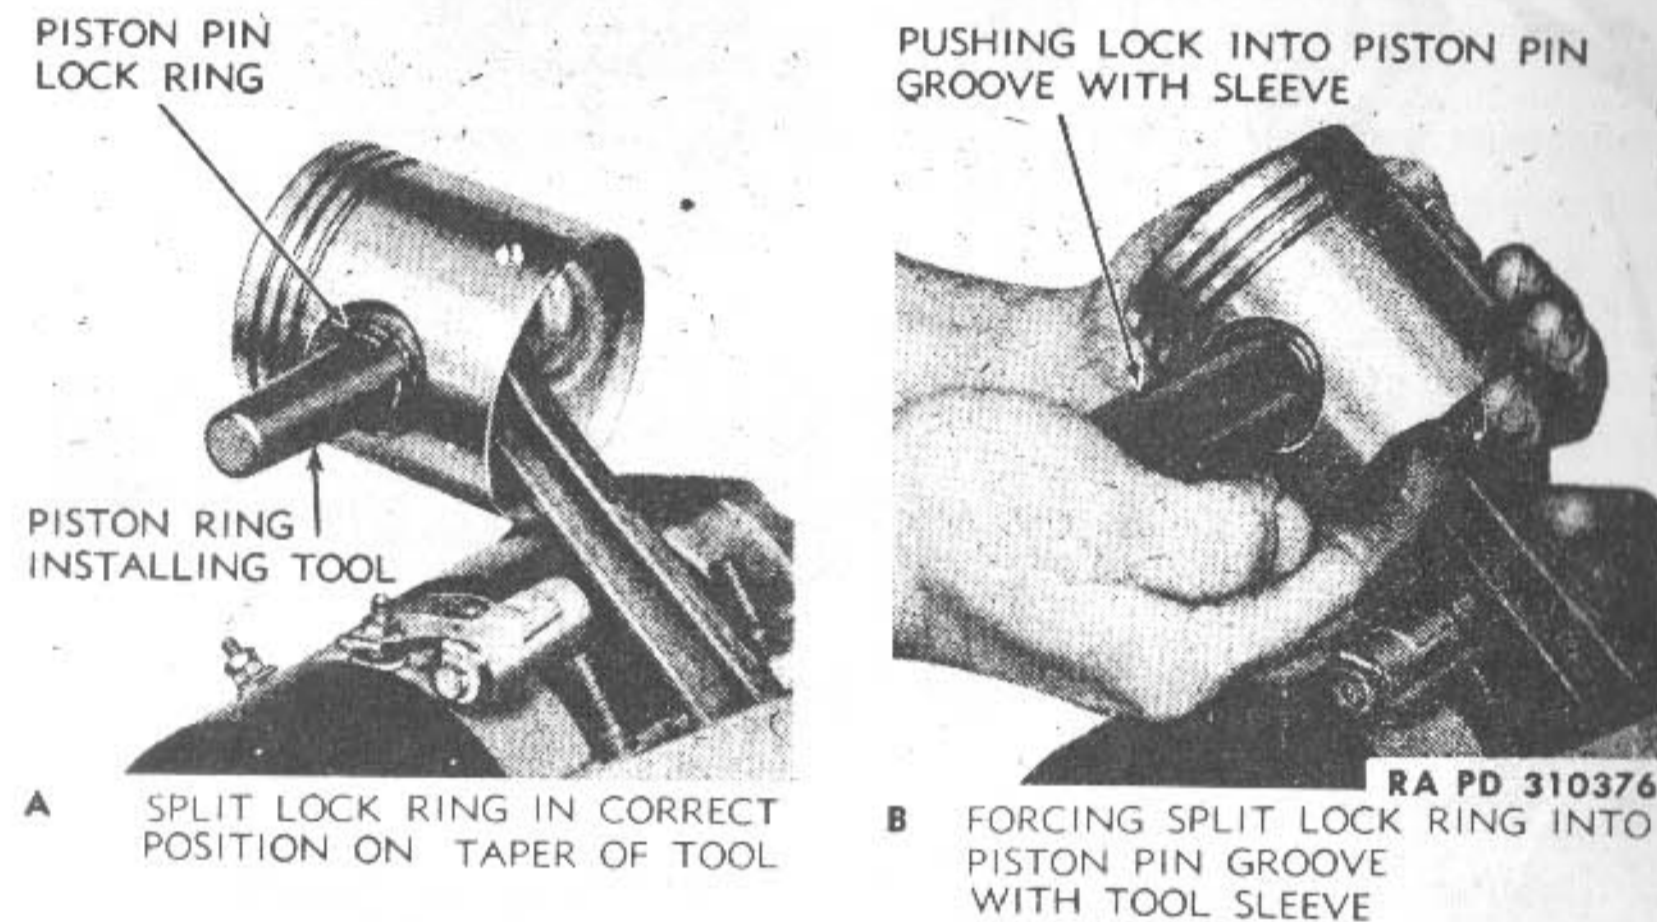

Figure 19—Installing Piston Pin Lock Ring with Tool (41-T-3260)
(2) To facilitate installing piston pin, heat piston (but not pin) about as hot as it can be handled.
(3) With piston pin in place and one lock ring already in its groove, install the remaining lock ring. CAUTION: Always use a new piston pin lock ring. Use special tool (41-T-3260) to install ring, thus prevent overexpanding with consequent damage to the lock ring (fig. 19). Be sure that lock ring seats firmly in its groove because a lock ring loosely installed will rapidly loosen further in service and finally come off of the pin, resulting in piston and cylinder damage.